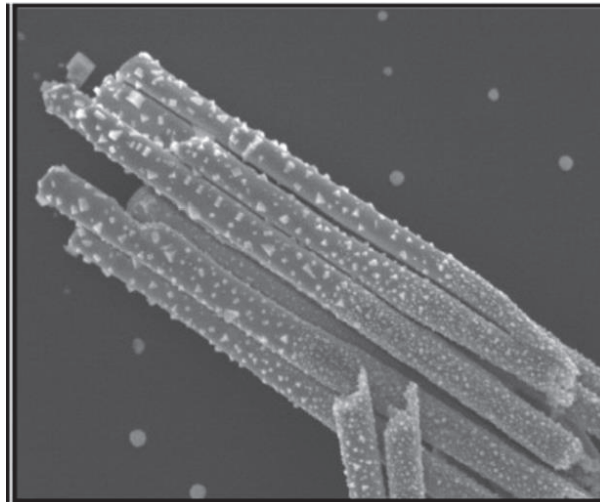

Figure 1: Nanoparticles embedded polymer nanorods prepared by electrodeposition method.
- (i). Explain the process of synthesizing nanoparticles embedded polymer nanorods shown in Figure 1 by giving on specific example.